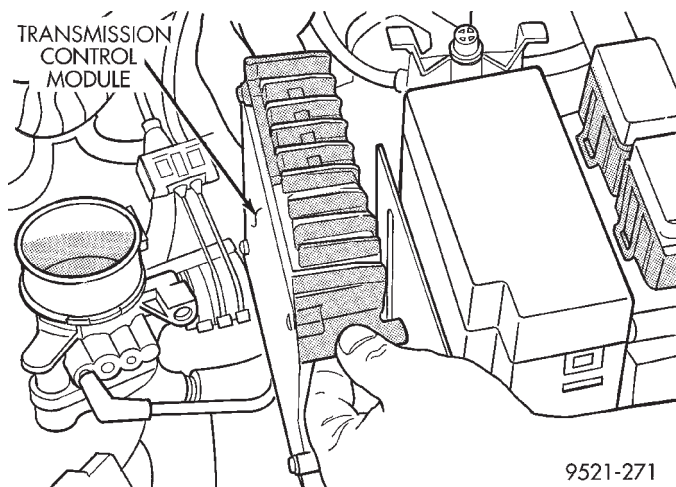

Fig. 31 Transmission Control Module
- (1) Disconnect battery negative cable at the left strut tower.
- (2) Remove air cleaner clamps and air cleaner.
- (3) Remove TCM 60 way connector.
- (4) Remove three mounting screws.
- (5) Remove TCM (Fig. 31).